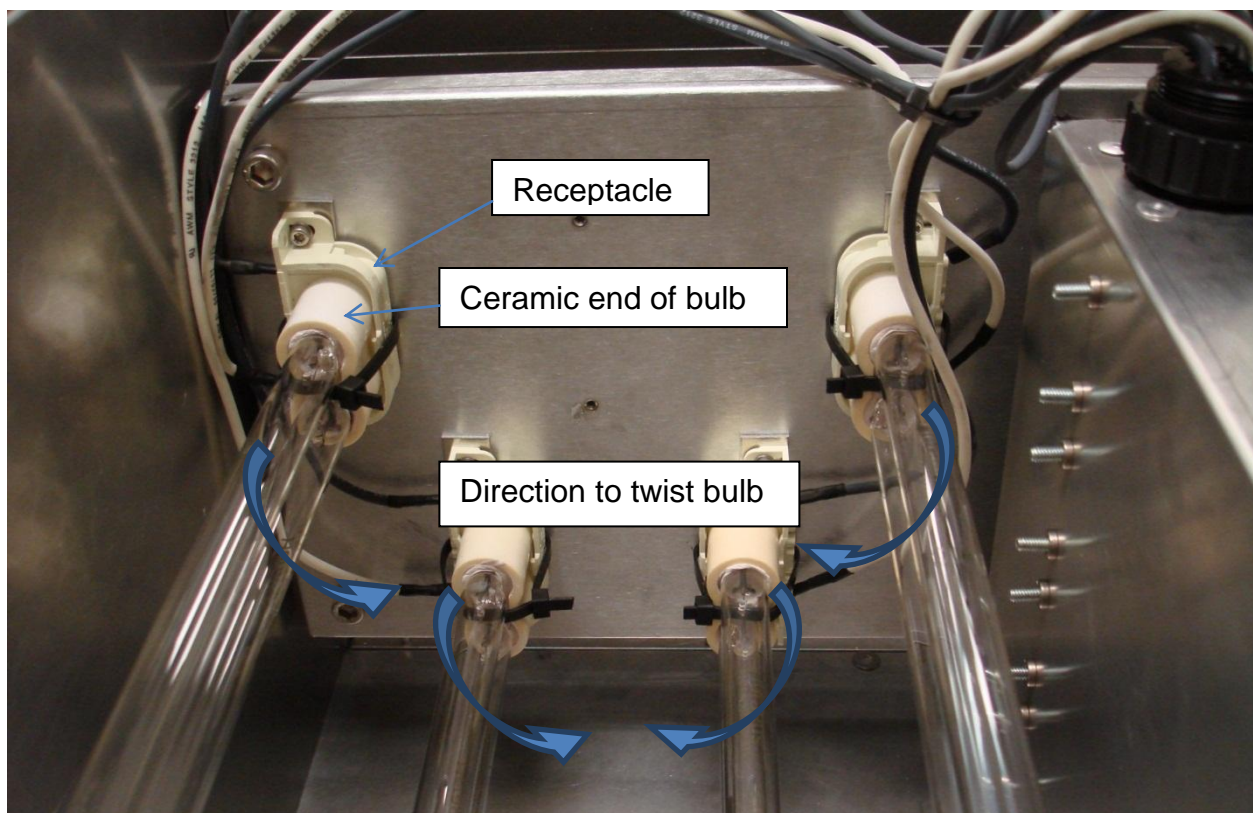

Figure 8: Bulbs Held in Receptacles with Zip Ties
- 10) Cut the zip ties with the snips, throw pieces away (See Figure 8)